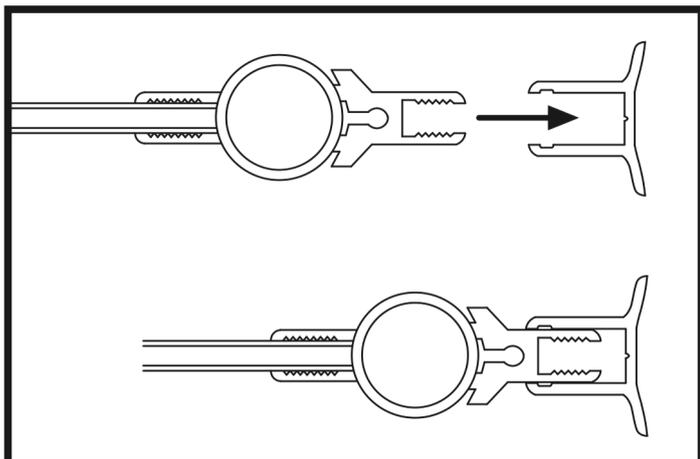

Figure 4
10. Carefully rest the bottom edge of the glass on the support blocks. Slide the mono-hinged glass into the wall-mounted hinge profile, with the movement directed toward the wall. (Figure 4)